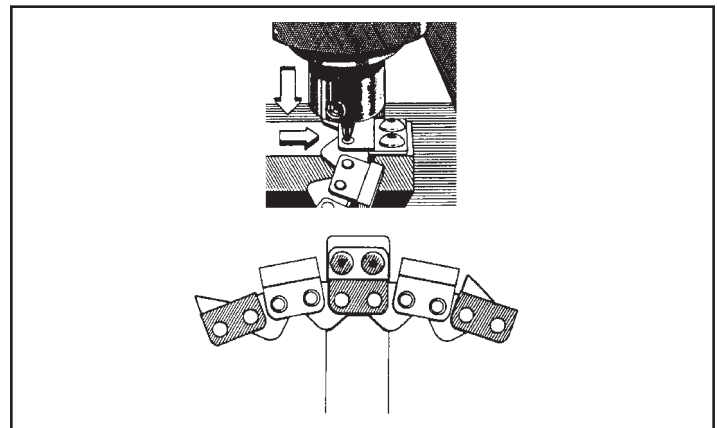

Figure 14. Removing a Rivet
3. Position the rivet head you want removed directly under the chainbreaker punch and then pull the handle down far enough to remove the rivet (Figure 14). Do not use excessive force.